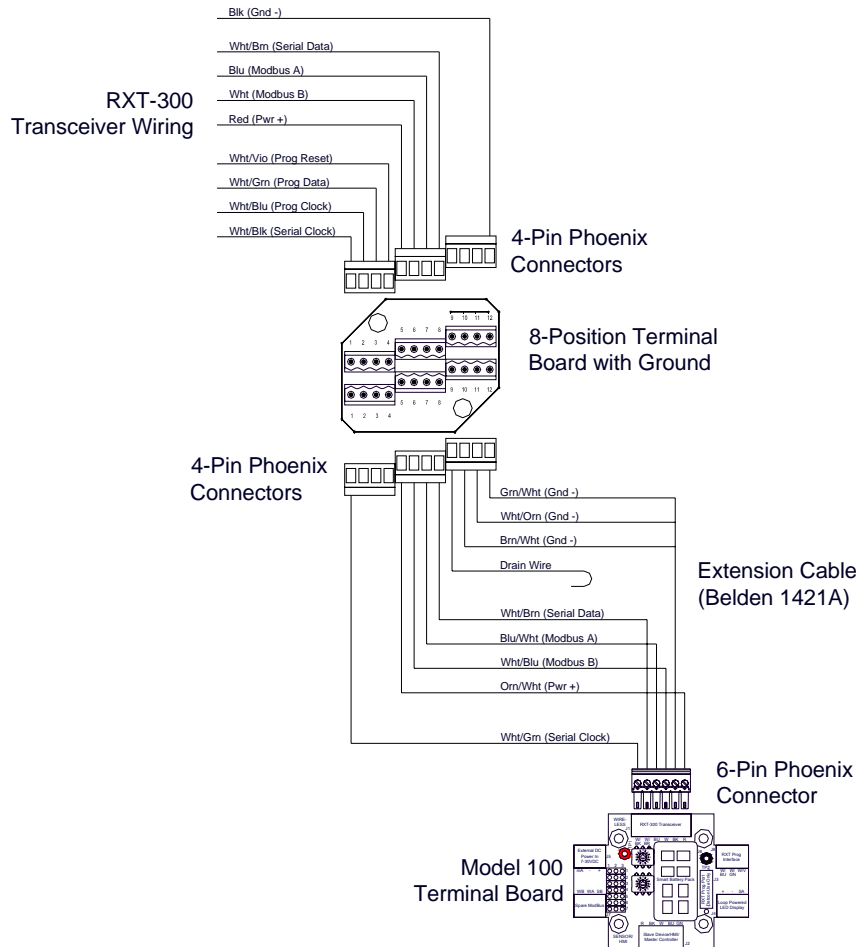

Figure 11 Wiring Diagram for Remote RXT-300 Transceiver Mounting
A custom extension cable needs to be built per Figure 11 to interface the remote transceiver to the Model 100 Terminal Board. The recommended cable for remote transceiver separation is Belden 1421A (24AWG shielded twisted pair, 4 pairs w/drain wire).
diagram in Figure 11. Reference Table 2 **RXT-300 Transceiver Wire Identification** for color code identification.
9. Connect the cable wires of the extension cable to the remaining three 4-pin Phoenix connectors from step 6 per the wiring diagram in Figure 11. Reference Table 1 **Extension Cable Wire Identification** for color code identification.
13. Connect the cable wires to the 6-pin Phoenix connector from step 3 per the wiring diagram in Figure 11. Reference Table 1 **Extension Cable Wire Identification** for color code identification.